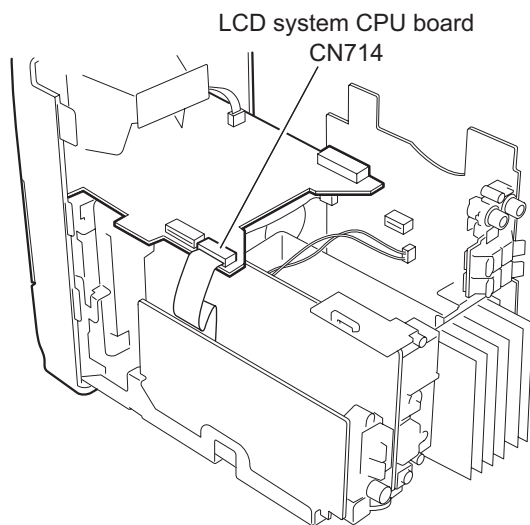

Fig.12
2.1.6 Removing the front panel assembly (See Fig.12,13)